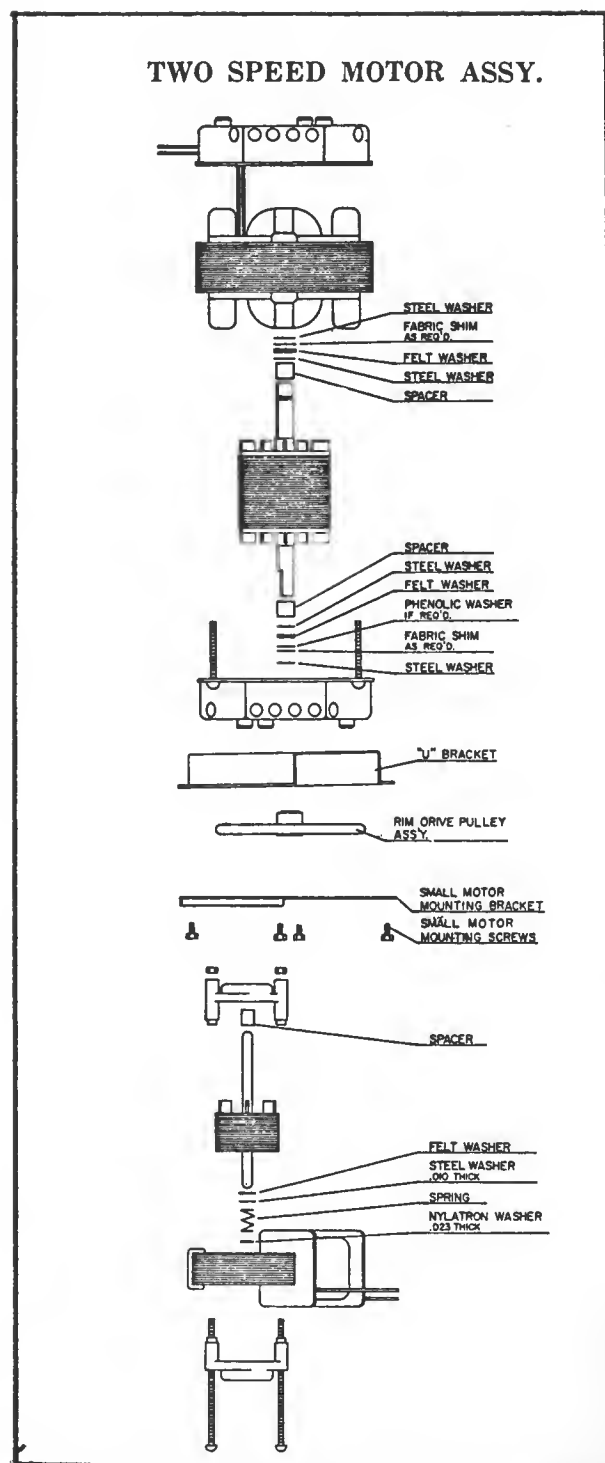

Figure 3-3. Leslie Two-Speed Motor Assembly
- b. Remove the nuts and washers attaching small motor to its mounting bracket. (See Figure 3-3.) Remove lower adjustment nut from the small motor adjustment screw. (See Figure 3-3.)
- a. Remove rim drive pulley assembly from the "U" bracket end of the large motor shaft using a 3/32 Allen wrench to loosen the pulley set screw. (See Figure 3-3.)